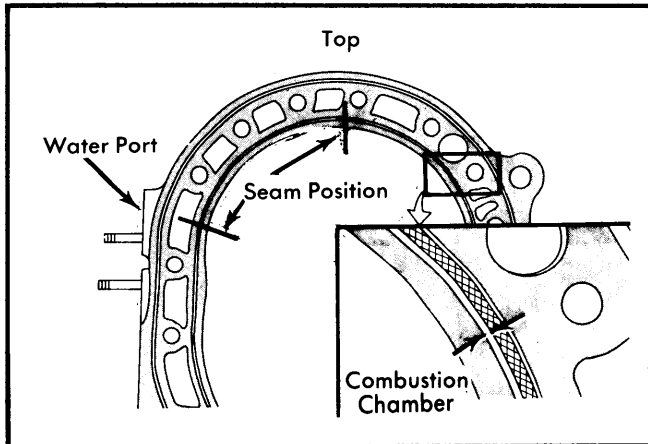

Fig. 23 Positioning Inner Sealing Rubber
**NOTE** — Inner sealing rubber is square type. The wider white line of sealing rubber should face toward combustion chamber and seam of rubber should be placed as shown in Fig. 23. Do not stretch sealing rubbers.